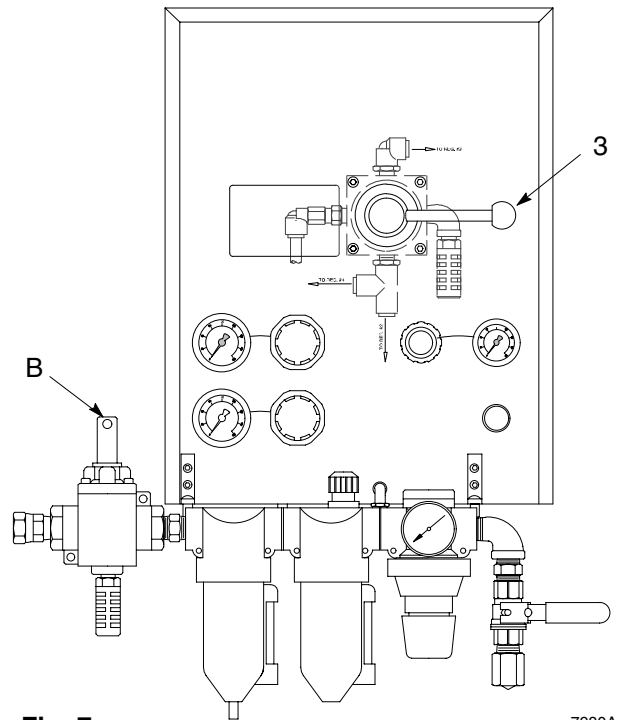

Fig. 7
3. To stop the ram from moving (Fig. 7):
- a. Close the master air lock-out valve (B).
- b. Move the hand valve (3) to the OFF position. This valve shuts off the air supply to the ram.